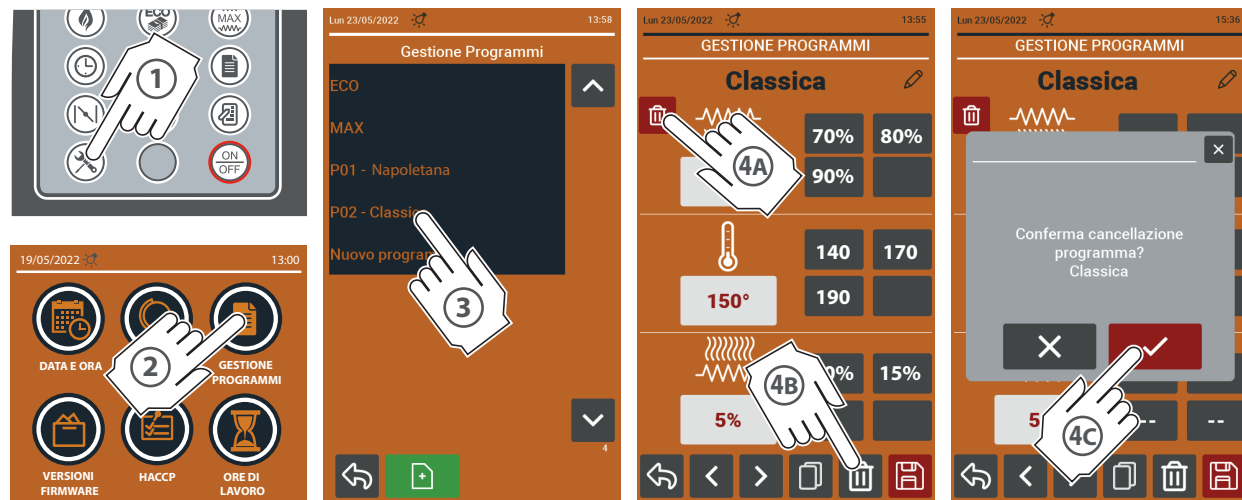

Fig.30
► Fig.30
- ① Touch the **SERVICE** icon (with the oven in stand-by).
- ② Touch the **PROGRAM MANAGEMENT** icon.
- ③ Touch the **NAME** of the recipe you wish to delete (in the example "Classic").
- ④ Touch the **BASKET**  symbol: